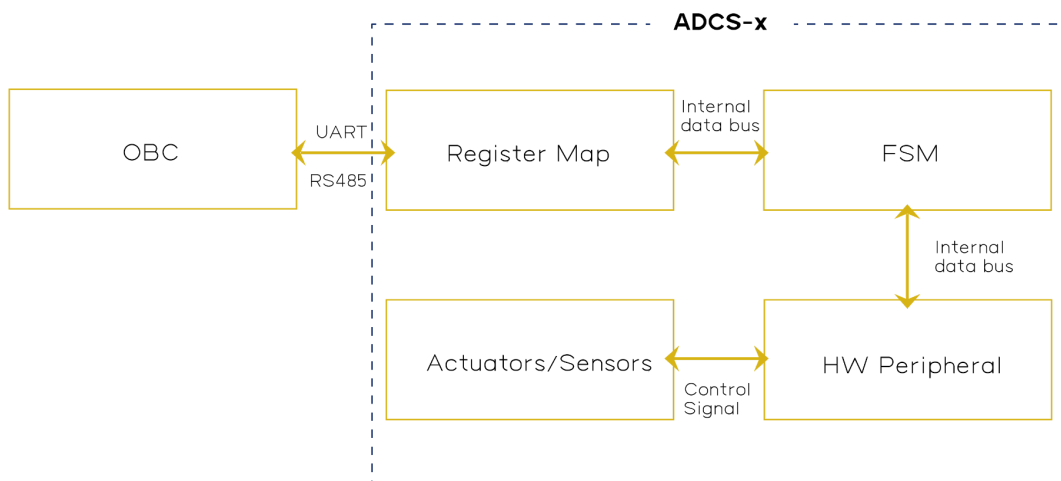

Figure 4-1. ADCS-x System Block Diagram
As Figure 4-1 shows, ADCS-x comprises four parts: "Register Map," "Finite State Machine (FSM)," "Hardware (HW) Peripheral," and "Actuators/Sensors." Here is the detailed description of each part: